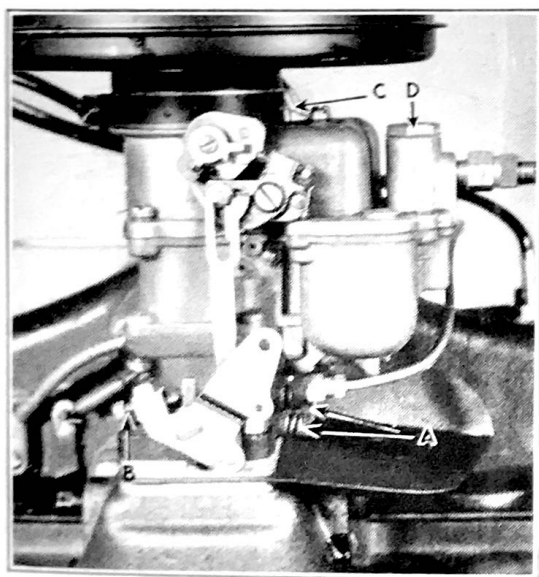

Figure 9
The Duplex (double barrel) type carburetor illustrated in Fig. 9, is used on models 11, 12, 14, 15, 17 and incorporates automatic choke, fast idle linkage, anti-percolator valve, vacuum controlled metering rods and accelerating pump.
Fuel Mixture for idling speeds is adjusted by means of screws (A), Fig. 9. *Engine should be warmed up to normal operating temperature before attempting adjustments.* Turn both screws (clockwise) to their seats. Then
Throttle Adjusting Screw (B), Fig. 9, should be set for a speed of $7\frac{1}{2}$ to 8 miles per hour in high gear.
Filter Screen Cap (D), Fig. 9, should be removed every 2,000 miles to permit cleaning the screen.